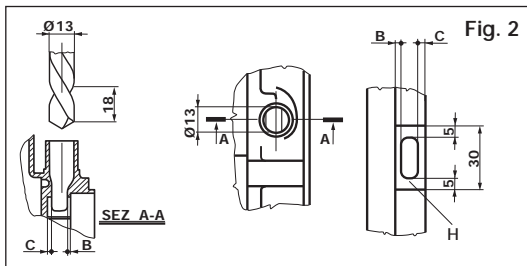

Fig. 2
- Remove the shaded section from the crank web on the flywheel side (Fig. 2).
#### ORIGINAL CRANKCASE (Fig. 2)